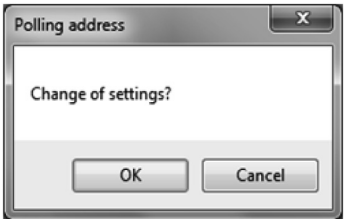

Fig.99
- ③ Click "OK" after entering the number. Then a message box (Fig. 99) appears. By clicking "OK", the new setting will be applied to the polling address.